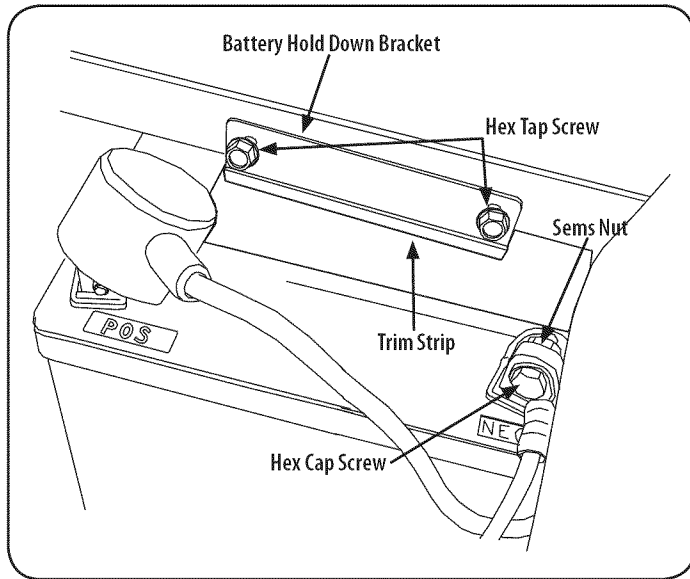

Figure 31
1. Remove the two hex tapping screws from the battery hold-down bracket and remove the bracket. Use care to avoid losing the trim strip from the bottom of the bracket. See Figure 31.